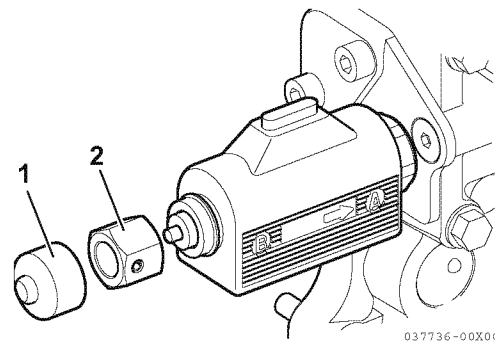

Figure 10
- Reverse the emergency nut (1, **Figure 10**) and thread it onto electric valve.